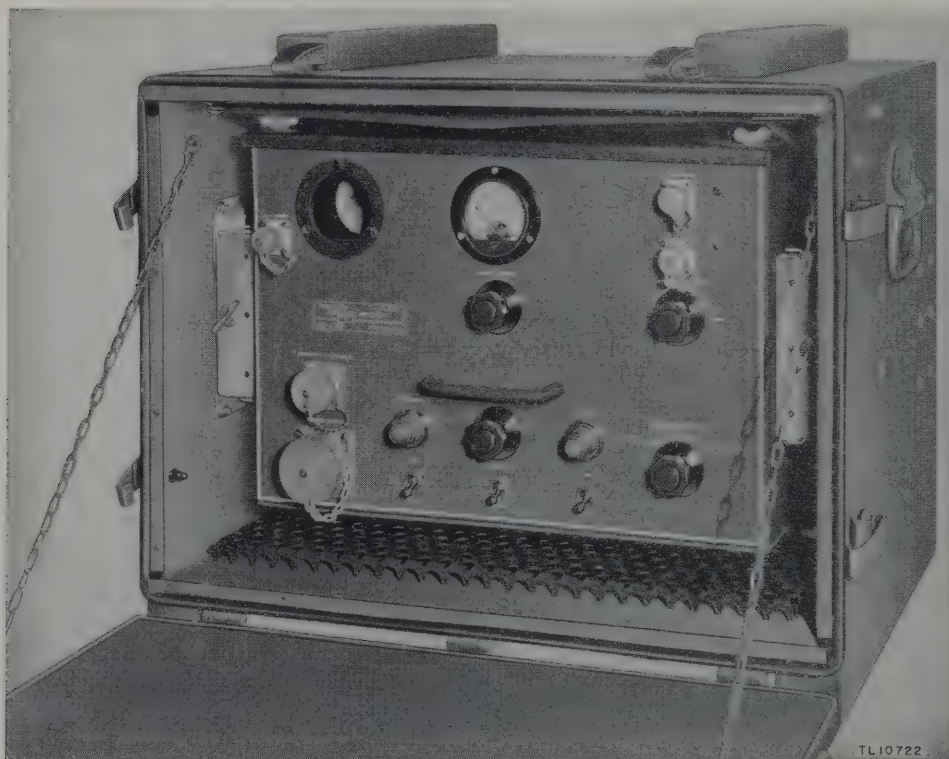

Figure 13. Amplifier AM-8/TRA-1 installed in Case CY-15(*)/TRA-1.
- (2) A drawer is provided in the case below the receiver compartment. This drawer is designed to carry operating components and complete spare tube complements for both Radio Receiver R-19(*)/TRC-1 and Radio Transmitter T-14(*)/TRC-1, as well as spare fuses, pilot lamps, crystals, tools, and cordage (par. 32).
- (3) To protect the equipment against humidity, a quantity of dehydrating agent is secured in the case. During shipment and initial storage, this chemical compound absorbs the moisture from the air which leaks past the neoprene gasketing.
c. CASE CY-15(*)/TRA-1. This is a waterproof plywood carrying case designed to house Amplifier AM-8(*)/TRA-1 when in transit or during field use (fig. 13). It is identical in all respects to Case CY-17(*)/TRC-1 and identical in external size and appearance to Case CY-18(*)/TRC-1.